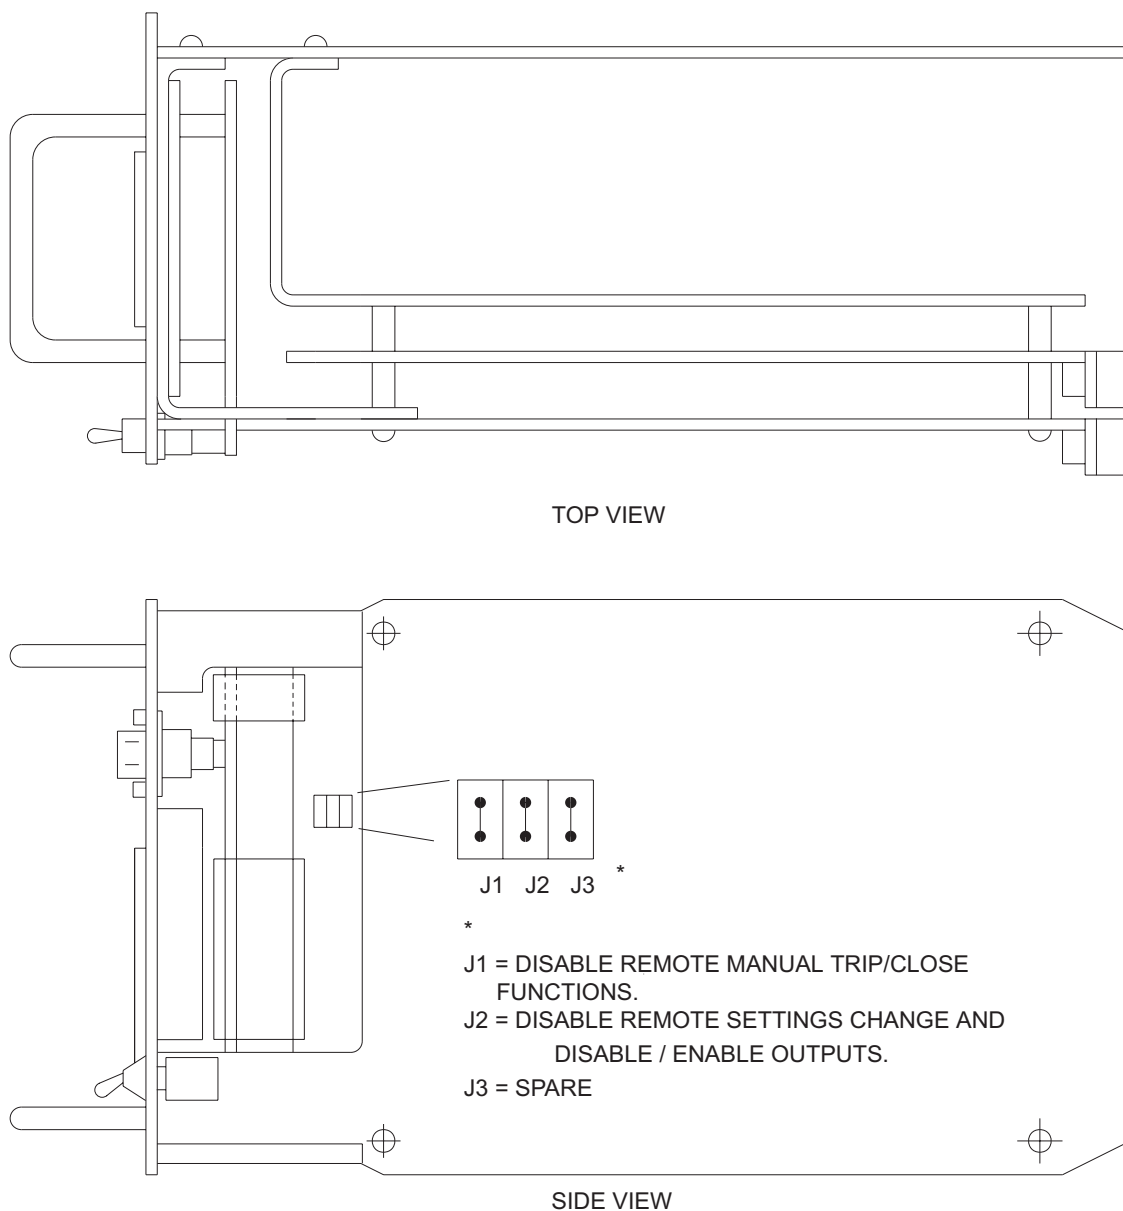

Figure 3–6. (0286A3848) MMI module.
- The SPIO (single-pole input/output) board contains the additional relay driver outputs and isolated contact converter inputs for single-pole tripping and reclosing functions. Additional inputs include trip circuit monitor data from the single-pole relay module. Figure 3–8 is the block diagram of the SPIO.